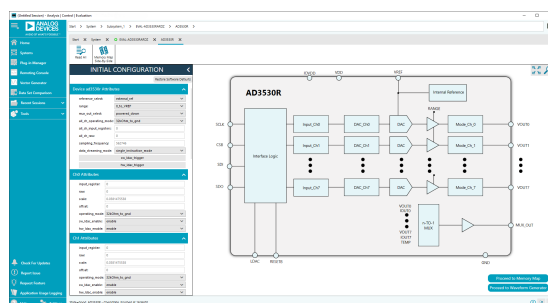

Figure 3. Chip Block Diagram of the AD3530R
4. Double-click the AD3530R chip to access the chip block diagram. This view provides a basic representation of the functionality of the board. The main functions of the board are labeled in Figure 3.